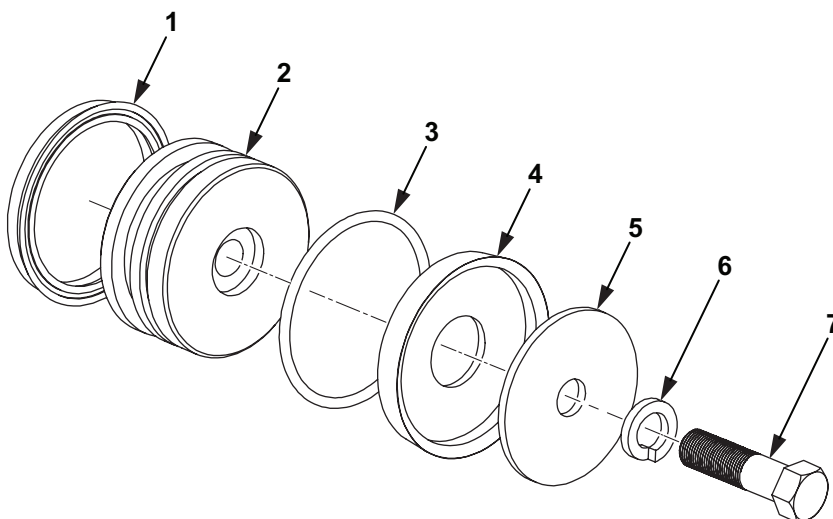

Figure 27 Complete Material Piston Assembly
The abrasive nature of concrete, mortar, or other masonry materials ultimately wears parts, components, and seals. Periodically, these parts and components will need repair and/or replacement. The visual indicator for material piston cup (Figure 27, Item 4), seal (Figure 27, Item 1), and O-ring (Figure 27, Item 3) replacement is contamination visible in the water box. The HP-20 Hog Pump has two identical material piston assemblies, but only one is shown below for illustration purposes.
4. Using the directional control valve handle, fully extend the hydraulic ram. The engine will bog down when the fully extended position is reached. The bolt (Figure 27, Item 7), lock washer (Figure 27, Item 6), piston cup backup washer (Figure 27, Item 5), and piston cup (Figure 27, Item 4) will be extended past the frame for easy access.
6. Using an impact tool, remove the 3/4-in. bolt from the material piston (Figure 27, Item 2).
13. Remove and discard the O-ring (Figure 27, Item 3) and loaded seal (Figure 27, Item 1) from the material piston.